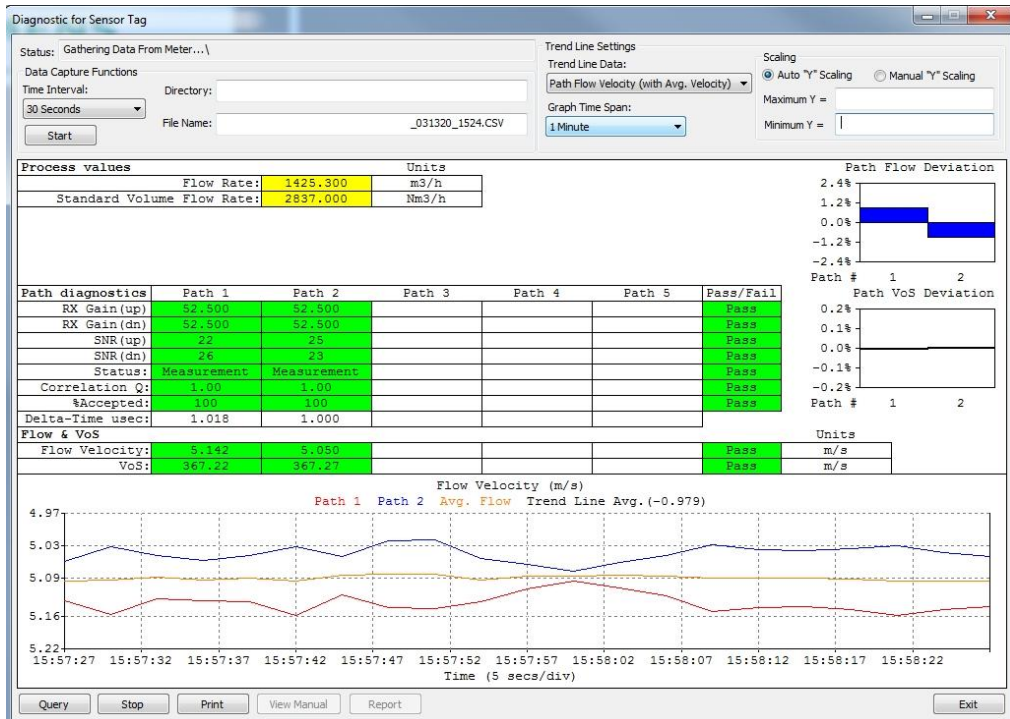

Figure 5-3 Meter Diagnostics Screen
3. The FS200 will display the flowmeter diagnostics as shown in Figure 5-3 below, it will continuously update these values.